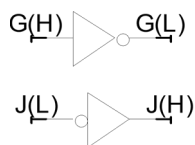

Figure 1: Use only four inputs. Create alternate activation-level inputs with level-shifters.
- Make a new project and filename Lab1c. Copy the logic diagrams in Quartus for equations (2) and (3) and place them in a single new file, i.e., this file will have circuits for both W and X. Generate a complete Quartus simulation timing diagram for these two circuits and verify that the voltage tables for the two circuits match the simulation outputs. Since all of the inputs for the positive-logic circuit are active-high and some of the inputs for the mixed-logic solution are probably active-low, if you just copy the two files you will have eight inputs. In order to directly compare the outputs, use the four inputs for **either** W or X and **create the other necessary inputs (with opposite activation-levels) using level-shifters** as shown in Figure 1. For example, using the signals name in Figure 1, you can **not** have a switch for G(H) and **another** switch from G(L); you can have one switch for either G(H) **or** G(L), and you will get the other signal with a level shifter. **Submit** (through Canvas) the archive file (including the design and simulation,
- Make a new project and filename Lab1d. Design mixed-logic implementations of the equations for Y and Z in equations (4) and (5) below. The goal in this part is to choose input and output activation-levels to minimize the **total number gates and chips** used in the overall design of these two circuits. Choose only
one of the two possible activation-levels for each of the inputs, i.e., A(H), B(L), etc. [but not A(H) for one and A(L) for the other]. (If you need both A(H) and A(L), that will cost one gate, a level-shifter or its equivalent, as shown in Figure 1.) Create the design by hand and then do it with Quartus in a single file. Do **not** simplify. (Hint: No more than two chips are needed.) **Add pin number and chip labels to each gate** to change this schematic into a wiring diagram.